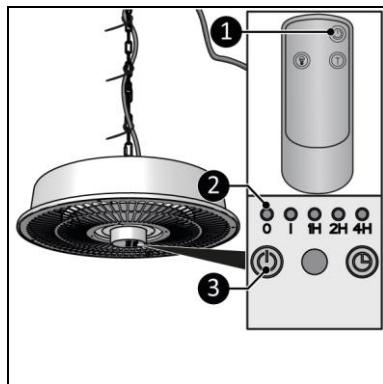

Figure 11
- The O light indicator lights up (Figure 11, pos. 2).
- Press the ON/OFF button on the control panel (Figure 11, pos. 3) or the remote control (Figure 11, pos. 1).